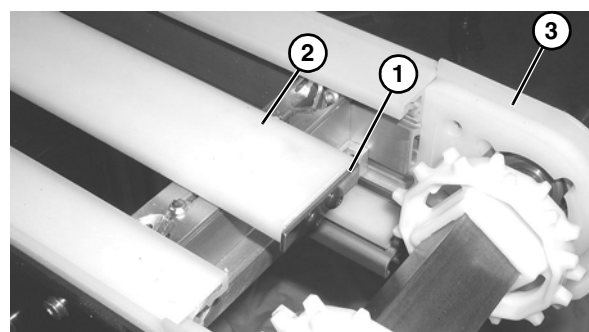

Figure 6
The stop plate (Figure 6, item 1) on the center wear strip (Figure 6, item 2) faces the drive end (Figure 6, item 3) of the conveyor.